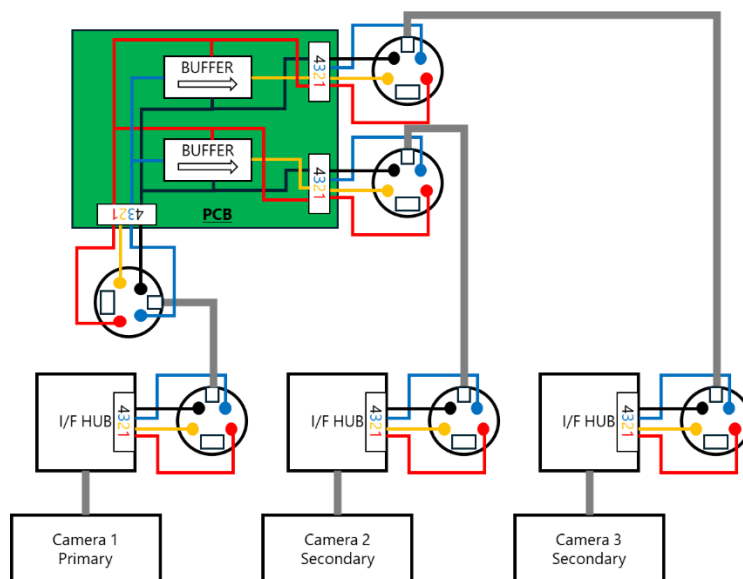

Figure 39. Example of a conversion board (PCB) for parallel camera connection
1. When connecting cameras together, pin 2 must be connected as input and pin 3 as output. For this reason, straight MINI-DIN 4P cables cannot be used. Therefore, prepare the converter board shown in **Figure 39. Example of a conversion board (PCB) for parallel camera connection.**